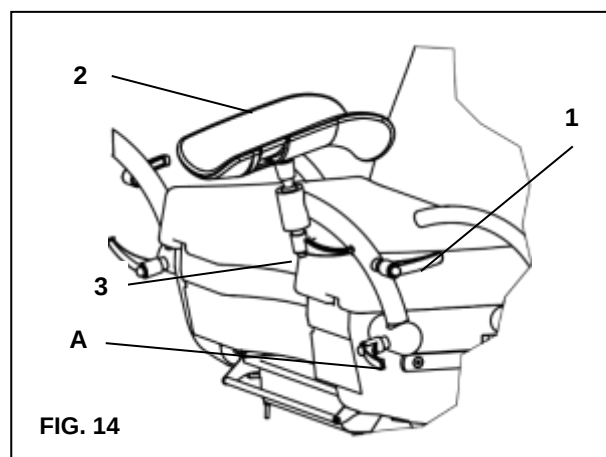

FIG. 14
Figure 14 shows the support with under-thigh holder. To adjust the inclination of the holder (1), loosen the handle (2), lead the holder to the desired position, then tighten again the handle (2). This model of leg holder could be provided with different kinds of support, depending on the operator's needs.